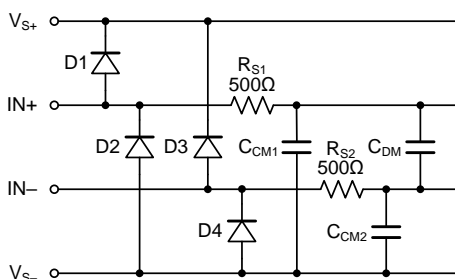

Figure 1. Input EMI Filter and Clamp Circuit
Figure 1 shows the input EMI filter and clamp circuit.
Infrared (IR) communication is inherently immune to RF interference as long as there is a line-of-sight path between the transmitter and the receiver. It is also one of the lowest cost communication schemes. This makes it a good choice for implementing wireless communications in applications such as utility metering. A common system topology to extend battery life is to use a power efficient IR receiver analog front end (AFE) that is always on and wakes up the host only when there is a valid IR signal detected as shown in Figure 1.
Figure 1 shows the IR receiver system block diagram. The host MCU is normally in the shutdown mode (during which the quiescent current is less than 1  $\mu$ A) except when data is being transferred.